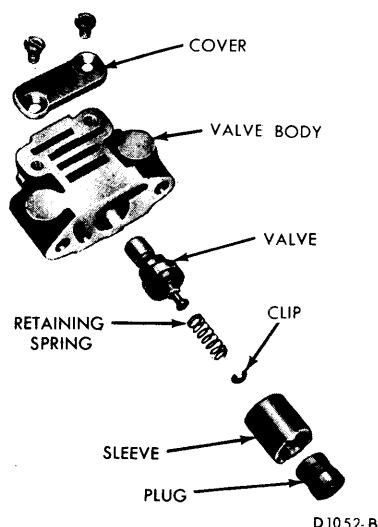

FIG. 44—Governor Disassembled
3. Remove the plug, sleeve, and valve from the body (Fig. 44).